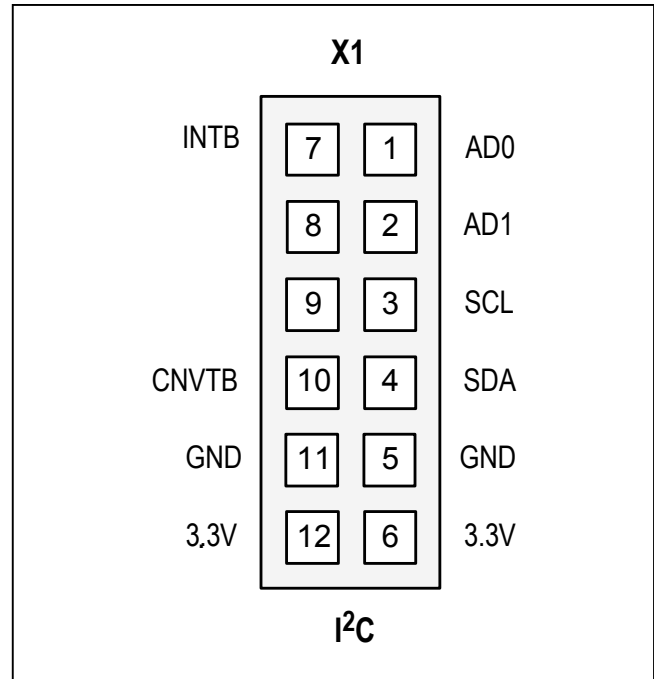

Figure 1. X1: Pmod I²C Connector Pin Configuration
- Connector X1 provides connection of the module to the Pmod host. See Table 1 and Figure 1 for detailed description.